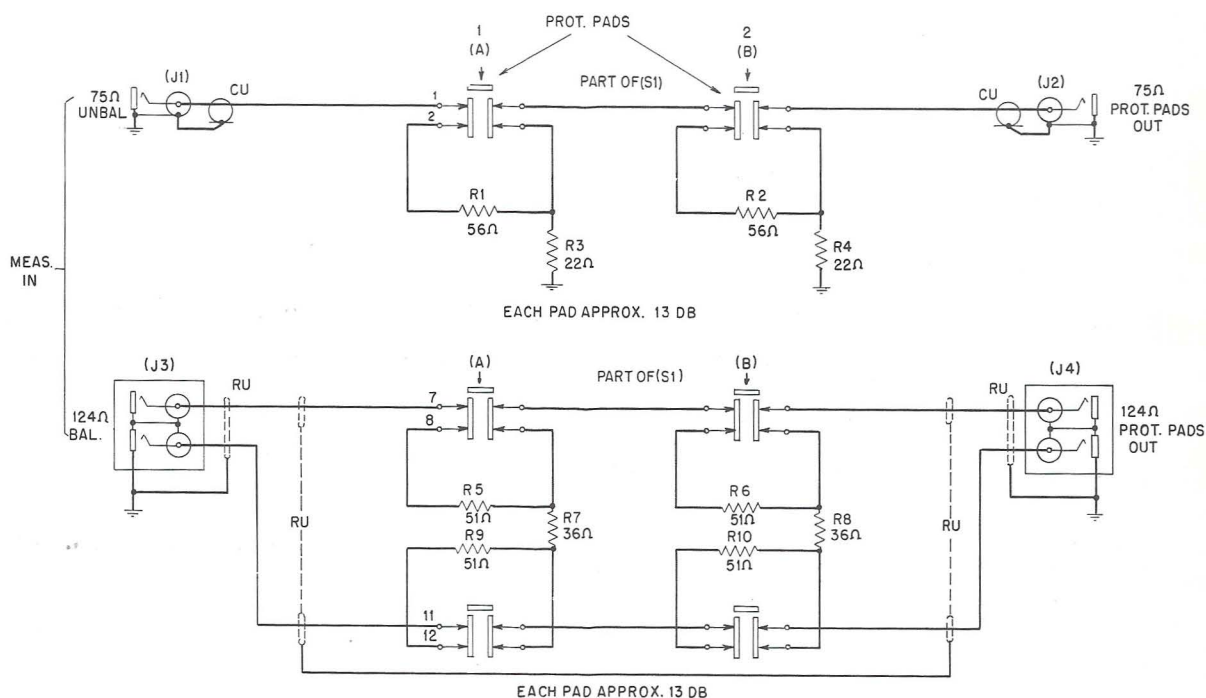

Fig. 8 - 75-Ohm and 124-Ohm Protection Pad Circuits
5.03 The protection pad circuits are shown in Fig. 8. Jacks designated MEAS IN 75 $\Omega$  UNBAL and 75 $\Omega$  PROT PADS OUT, MEAS IN 124 $\Omega$  BAL and 124 $\Omega$  PROT PADS OUT are pro-